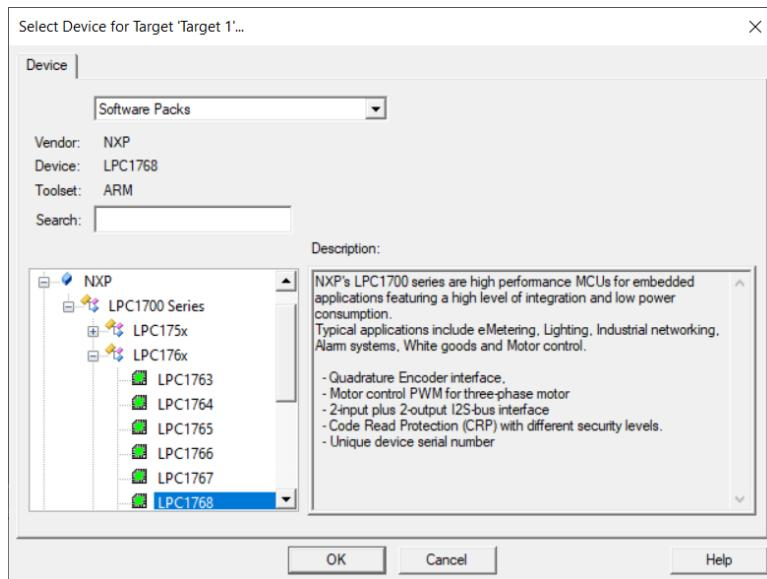

Figure 7.3: Keil IDE: Choose MCU
- Select NXP → LPC1700 Series → LPC176x → LPC1768 (See Figure 7.3).